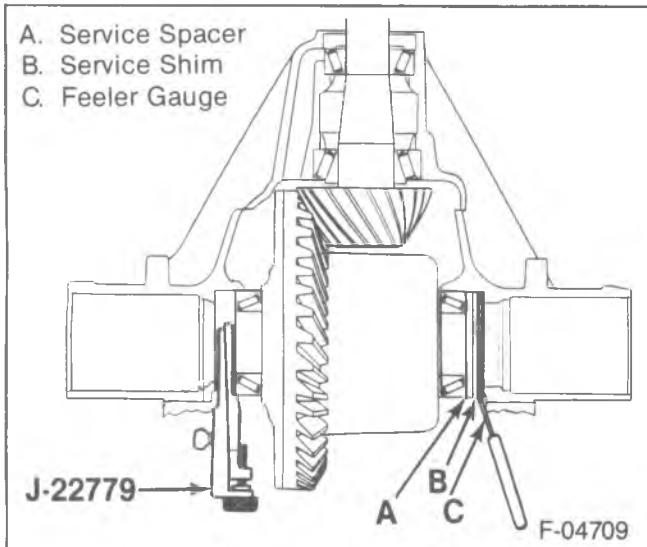
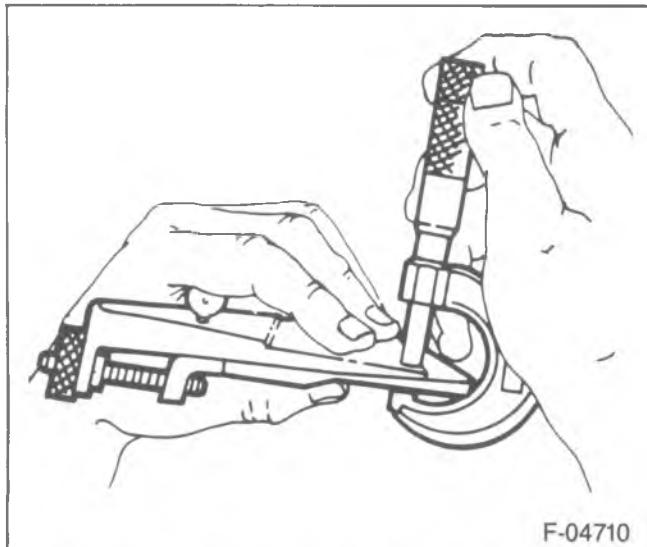

Figure 21—Measuring Side Bearing Shim Requirements
Figure 22—Measuring the Gage Plate Thickness
- Move the tool back and forth in the bore while turning the adjusting nut to the right until a noticeable drag is produced (figure 21).
- Install a service spacer (9) and a service shim (9) between the right bearing cup and the axle housing.
- Measure J-22779 in three places using a micrometer. Average the readings (figure 22).